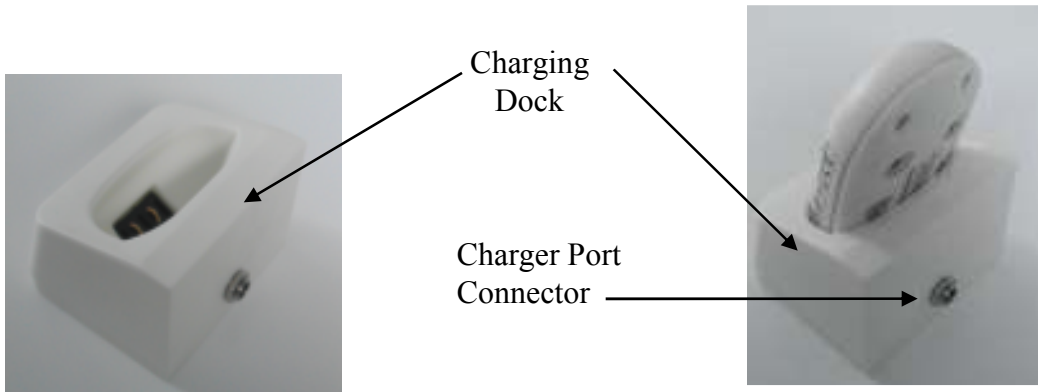

Figure 8.
- Step 2:** Place the VS200 device into the VS200 charging dock provided. The dock must have access to a plug socket. The connectors must meet the custom fit cradle holder of the charging dock shown in Figure 8 and Figure 9 below.